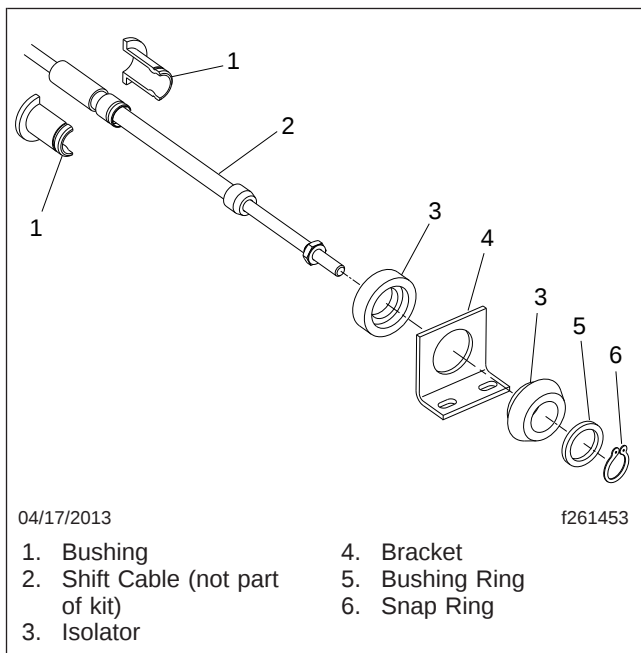
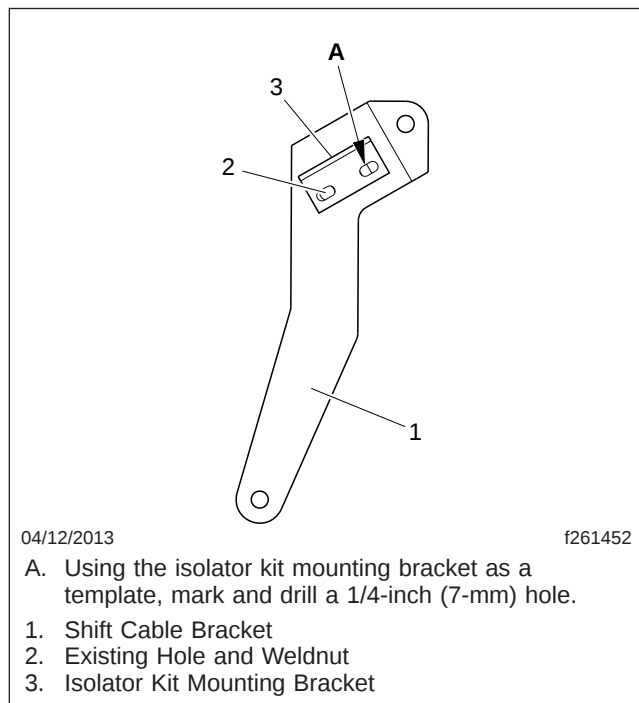
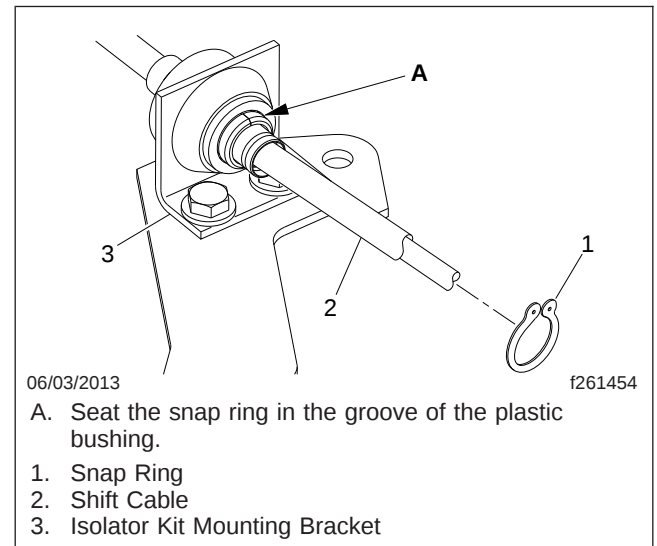

Fig. 8, Isolator Kit KPP 294201
Fig. 9, Locating Isolator Kit Bracket Holes, Kit KPP 294201
Fig. 11, Snap Ring Installation, Kit KPP 294201
7. Using the isolator kit mounting bracket (**Fig. 8**, item 4) as a template, with one hole positioned over the existing hole in the cable bracket, mark and drill a 1/4-inch (7-mm) hole in the cable bracket, as shown in **Fig. 9**.
10. Install the cable in the bracket using the remaining isolator kit parts (**Fig. 8**). Make sure the snap ring is seated in the groove of the plastic bushing; see **Fig. 11**.